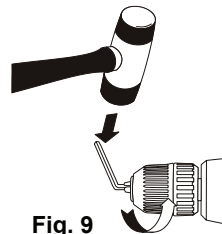

Fig. 9
- Insert the hex key into the chuck and tighten jaws of chuck securely (Fig. 9). Tap the hex key sharply with a mallet in a **COUNTER-CLOCKWISE** direction. This will loosen the chuck on the spindle. The chuck can now be unscrewed and removed from the spindle by hand.